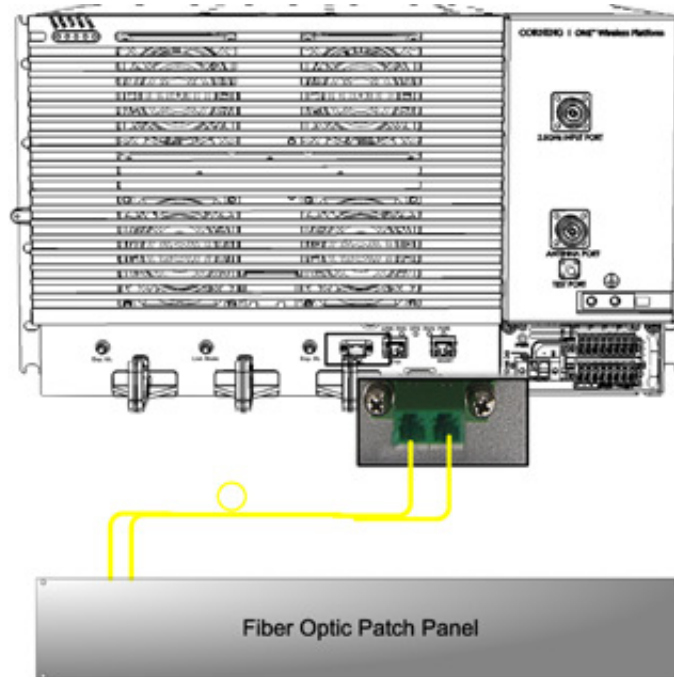

Figure 6-6 Fiber Connections toward Fiber Patch Panel
1. Using Corning® SMF-28® fiber (or compatible), connect the MRU LC APC fiber connector fiber patch panel. See Figure 6-6.